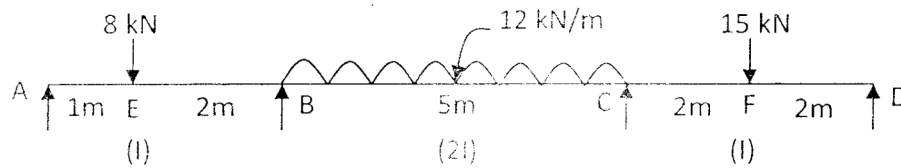

Figure: 6
9. Draw BMD for the continuous beam shown in figure 6 by using Moment distribution method? [10]